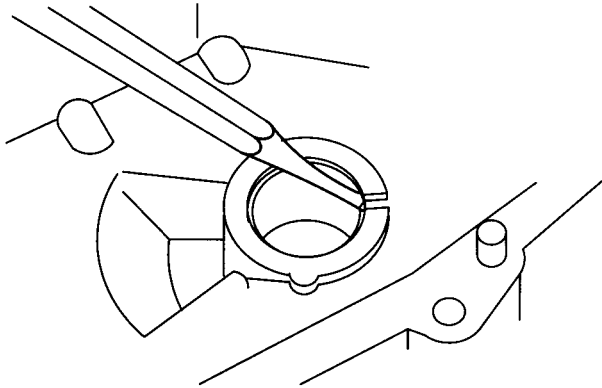

Fig. 8 - Stake Bearing
4. Stake bearing from both sides with 1/4" round punch to prevent bearing from turning, Fig. 8.